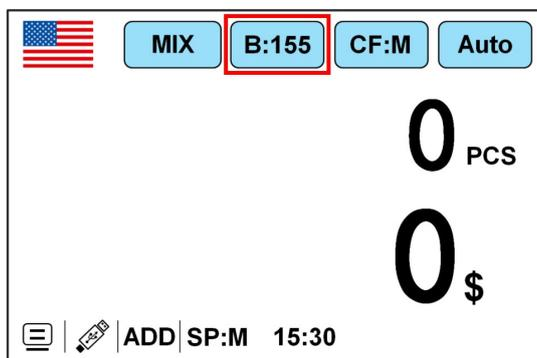

Figure 31
7) Please press the "ESC/CLEAR" key to return to the main interface, and then press the "B:" key at the top of the display screen to switch to the previously set value of 155, as shown in Figure 31 below: